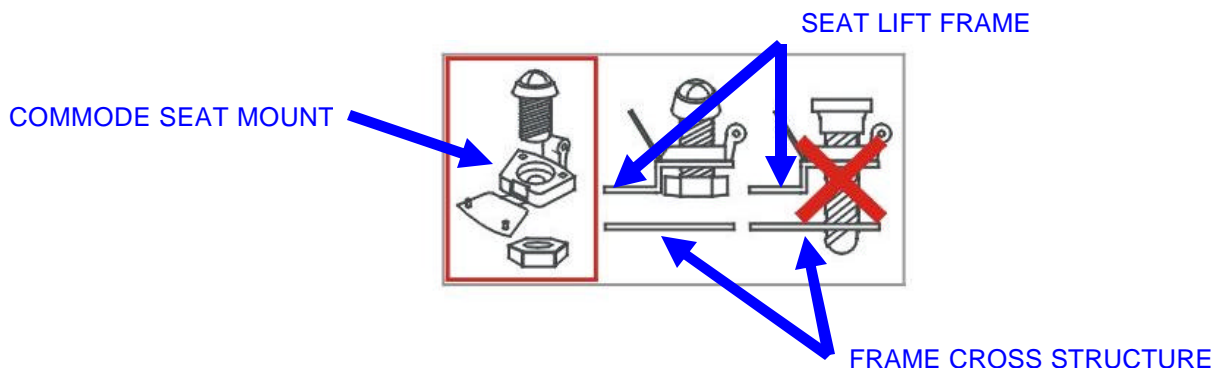

Figure M-6. Home Commode Seat Installation
- c. Install the nylon mount bolts and the mount nuts, and tighten them to secure the commode seat hinge to the seat lift frame. See Figure M-6.